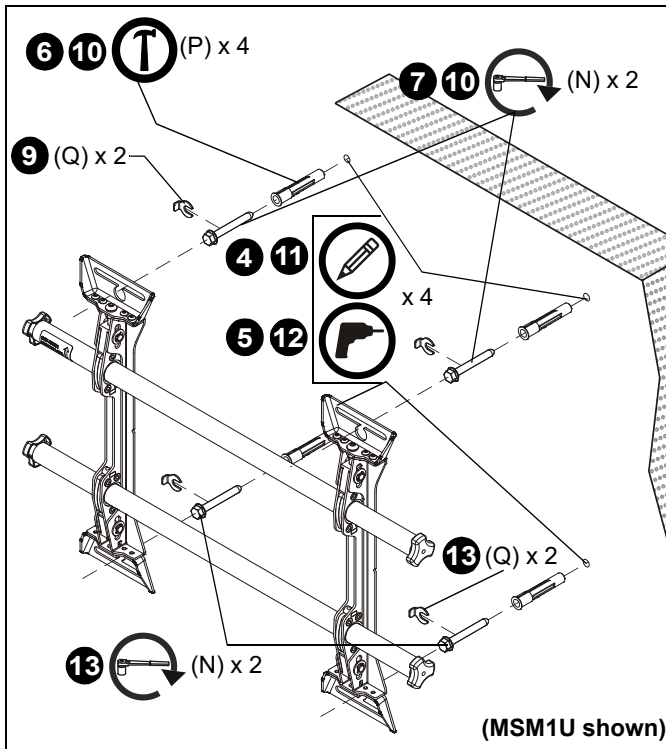

Figure 3
4. Using a level, mark the wall through both upper mounting slots. (See Figure 3)
6. Install an anchor (P) into each pilot hole using a hammer, making sure that the anchor is flush with the wall.
7. Partially install two 5/16 x 2-1/2" flanged lag bolts (N) into pilot holes but do not tighten to wall.
8. Hang mount (CC), aligning upper mounting slots over lag bolts and adjust side-to-side for proper location.
9. Place one slotted washer (Q) over each flanged lag bolt.
10. Tighten lag bolts to secure mount (CC) to wall at upper mounting slots.
12. Drill 3/8" x 3-1/2" (9.5mm x 88.9mm) pilot holes at markings for lower mounting holes. (See Figure 3)
13. Use two 5/16 x 2-1/2" flanged lag bolts (N) and two 5/16" slotted washers (Q) to attach the mount to the wall through the lower mounting holes. (See Figure 3)